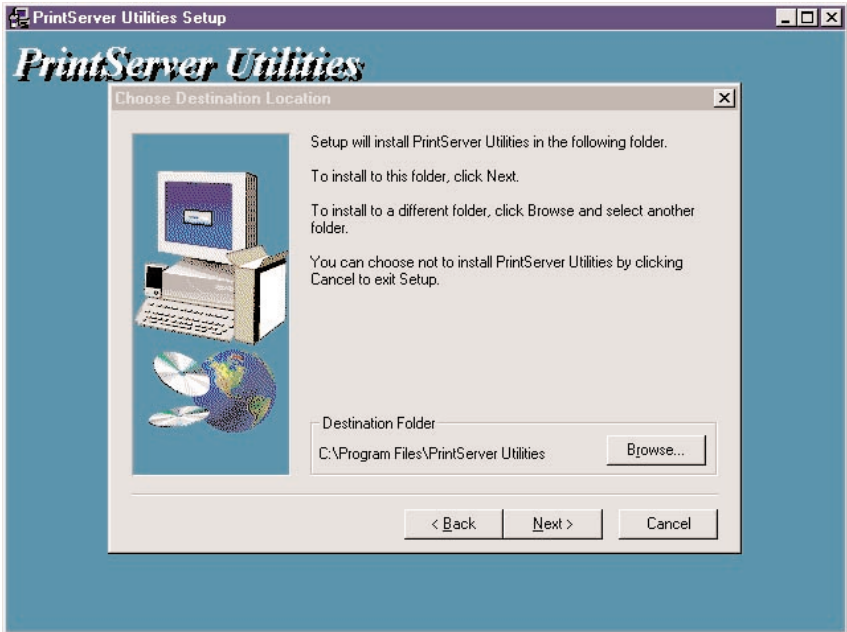

Figure 4-4. Selecting the destination folder.
4. To quit setup and close any programs you have running, click on the **Cancel** button. To go on to the next screen, click on the **Next** button. Figure 4-4 appears.